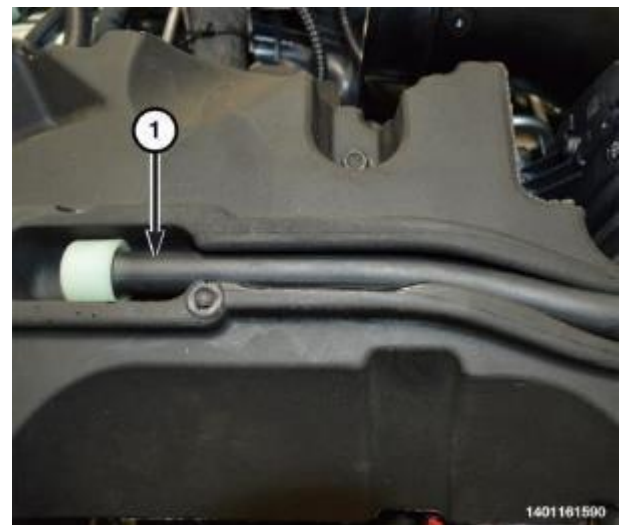

Figure 10 – Left Bank Fuel Rail Cover
- 17. Remove the vent hose (1) from the left fuel rail cover (Figure 10).